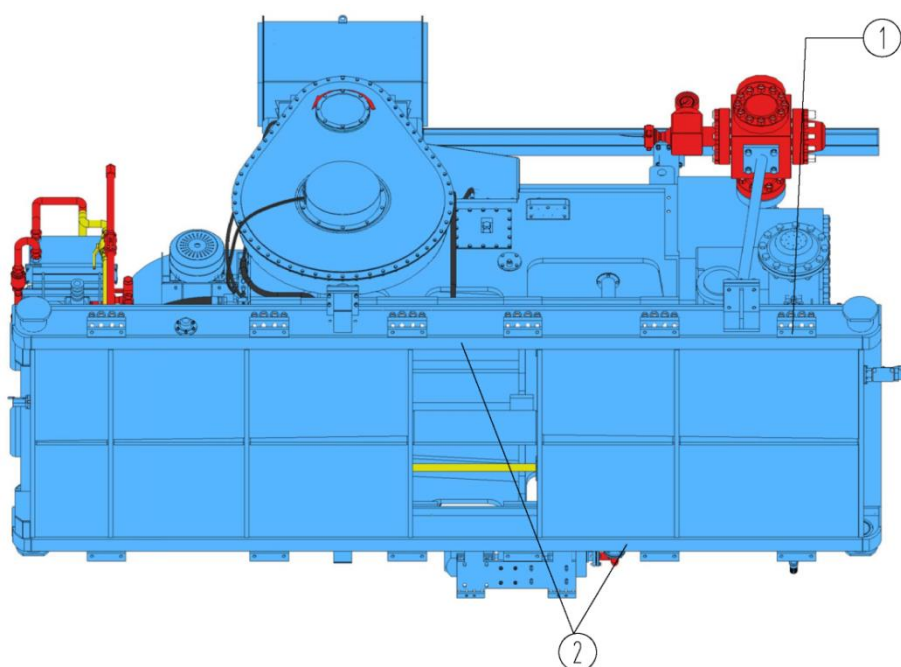

Figure7: Mud Pump Installation (Concrete Foundation)
1. Adjust the 12 tie down plates (1) of height adjustment devices higher than the below surface of pump skid main beams(RH&LH) (2) before installing the mud pump. Be sure that the tie down plates (1) will not ahead of contact the concrete surface.
2. Be sure that the below surface of pump skid main beams(RH&LH) (2) contact the support beam or concrete surface. Follow the mounting locations shown on the project-specific assembly drawing. Maybe the below surface of pump skid main beams (2) can't fully contact the concrete surface. Secure the 12 tie down plates (1) fully contact the concrete surface through adjust the bolts , the lock the plates with locking bolts. As shown in Figure 7.